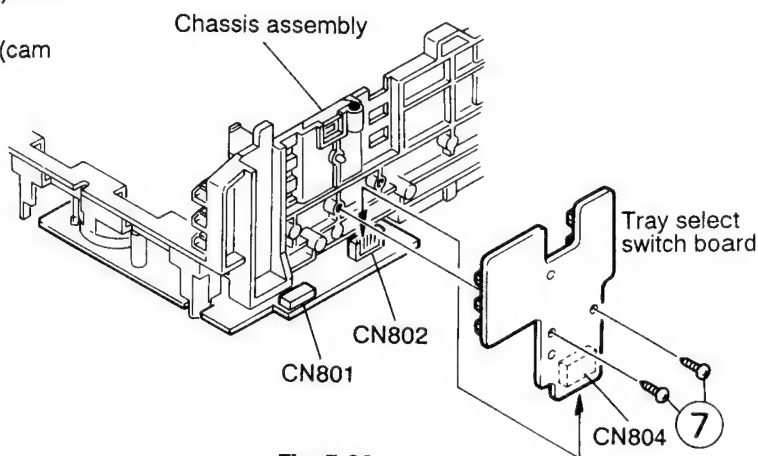

Fig. 5-36
2. Remove the two screws (6) retaining the actuator motor board (See Fig. 5-36).
3. Remove the two screws (7) retaining the tray select switch board (See Fig. 5-36).